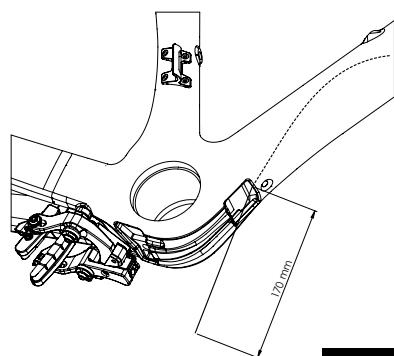

Fig. 27
- 3 / Position the foam tube on the brake sheath from your mark. Fix the foam tube on the brake sheath using adhesive tape. Guide the sheath to 170mm from the end (Fig. 27). Leave some slack; the sheath must not be taut inside the frame.
2 / Position the brake sheath 170mm from the end (Fig. 27). Keep some slack The sheath must not be taught inside the frame.